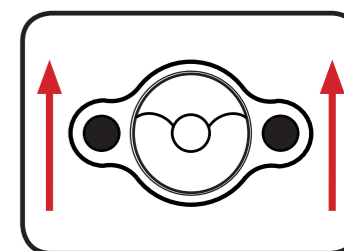

Fig.5
4. Place the handing pin in the 'L' hole and refit the cover plate with the 2 screws. When refitting the cover plate, ensure that it is facing as per Fig.5 and screws down flush.